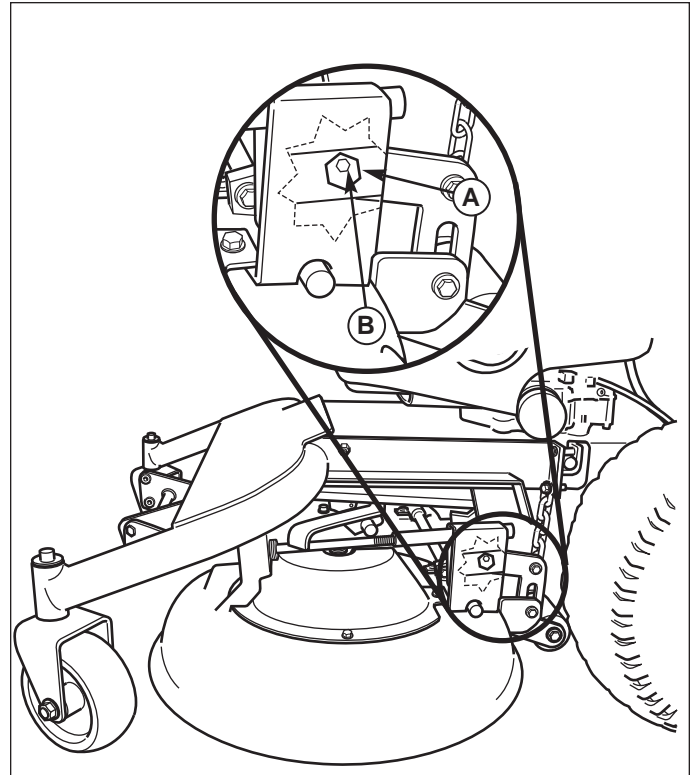

Figure 26. Side-to-Side Leveling - Early Models
5. See Figure 26. Loosen the outside nut (A). Turn the eccentric nut (B) to raise or lower left-hand side of mower. When mower is level, hold the eccentric nut while tightening the outside nut.